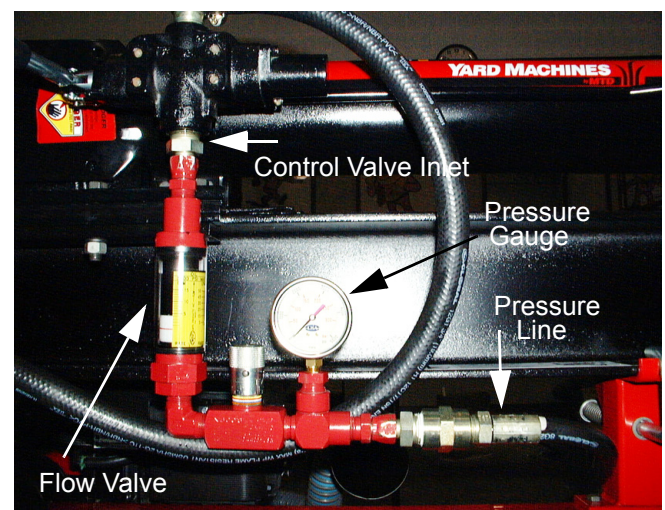

Figure 2
2. Secure the male union to the flow meter connector using a 1-1/8" wrench and a 7/8" wrench. ____ See Figure 2.